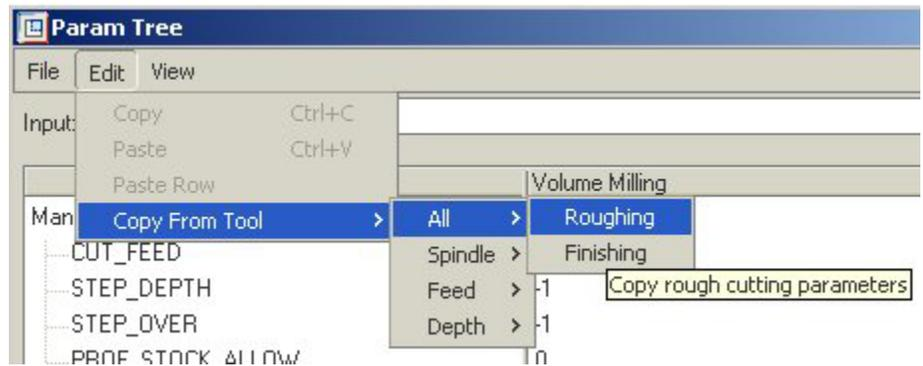

Figure 3: Parameter settings
**Method 1:** In the parameter tree in an NC sequence, select Edit, Copy From Tool and either All, Spindle, Feed, or Depth, and either Roughing or Finishing. The speed/feed/cut depth parameters will be read from the database for the workpiece material and current tool. See Figure 3.